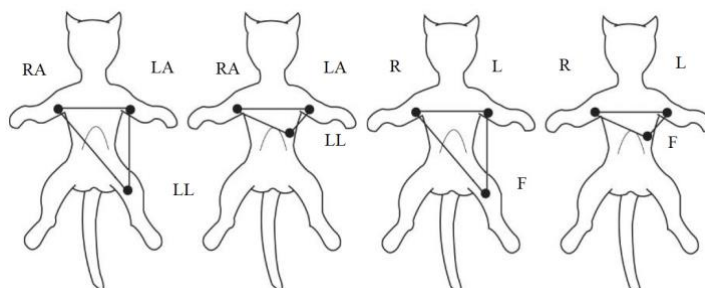

Figure 9-2 Positions of 3-Lead Electrode Placement
(2) For the placement of the five-lead ECG electrode, refer to the figure as shown in Figure 9-2.